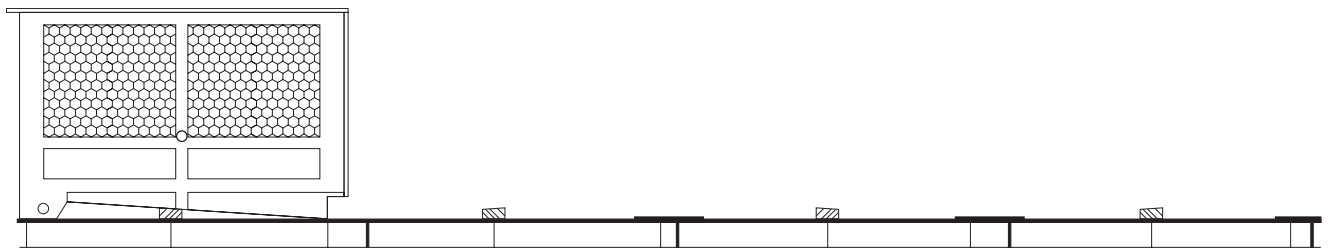
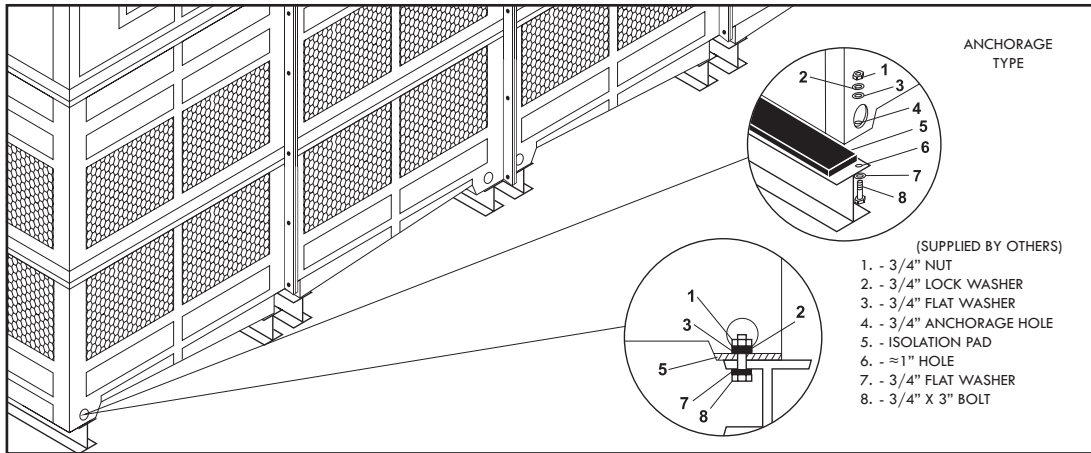
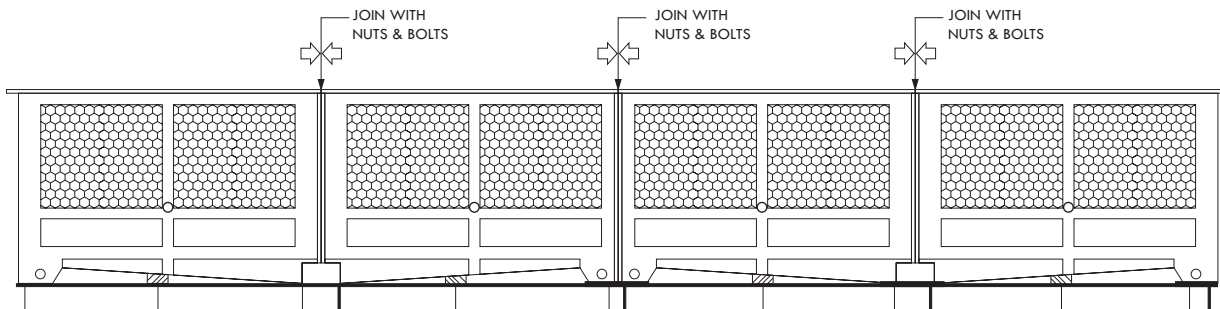

Figure A-23: Basin section 1 installation
Figure A-24: Typical anchorage for a modular tower
Figure A-25: Basin section installation
- D. Place Basin Section 1 on top of the structural base, making sure that the anchorage holes on the bottom of the tower are aligned with the perforations on the base (See Figure A-23). Bolt down and secure it with stainless steel nut and bolt sets (supplied by others, refer to Figure A-24).
G. Proceed to place Basin Section 2 on top of the isolation pad and the structural base, making sure that the anchorage holes are aligned. Bolt the vertical flanges of Basin Sections 1 & 2 together using first the galvanized steel bolts and nuts (supplied by REYMSA) to join sections. Then replace the galvanized steel bolts with the stainless steel nut and bolt sets supplied by REYMSA. Then proceed to bolt down and secure Basin Section 2 to the structural base with the stainless steel nut and bolt sets supplied by others (see Figure A-24). Repeat until all Basin Sections have been installed (see Figure A-25).